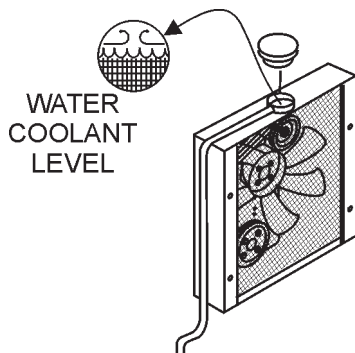

Figure 15. Radiator Coolant
2. Maintain water/coolant level at top of radiator coils (Figure 15).